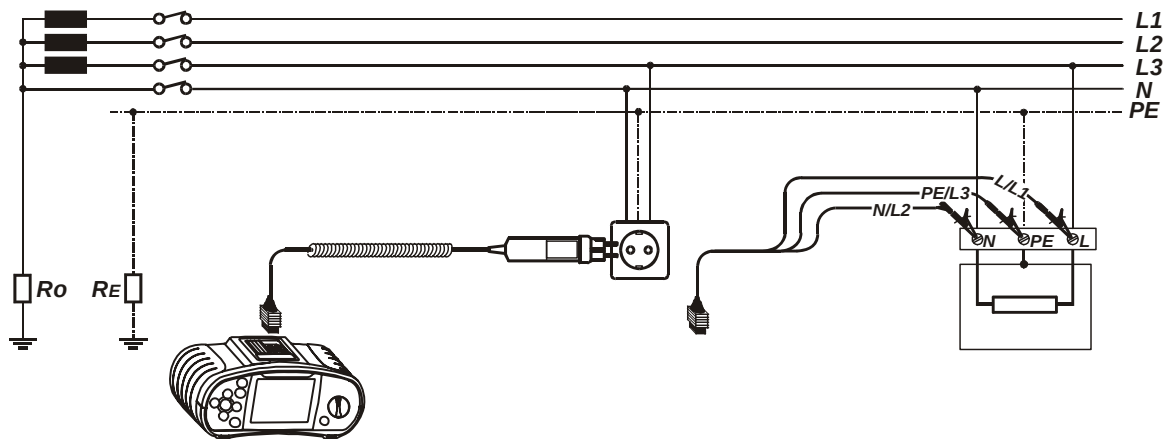

Figure 5.29: Connection of plug cable and universal test cable
Step 2 Connect the test leads to the instrument and follow the connection diagram shown in the figure 5.29 to perform fault loop impedance measurement.